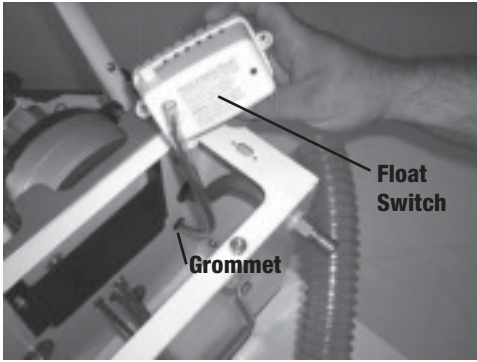

Figure 7: Removing float switch
5. Remove brass thumb-nut from float switch and pull wires through rubber grommet (fig. 7).